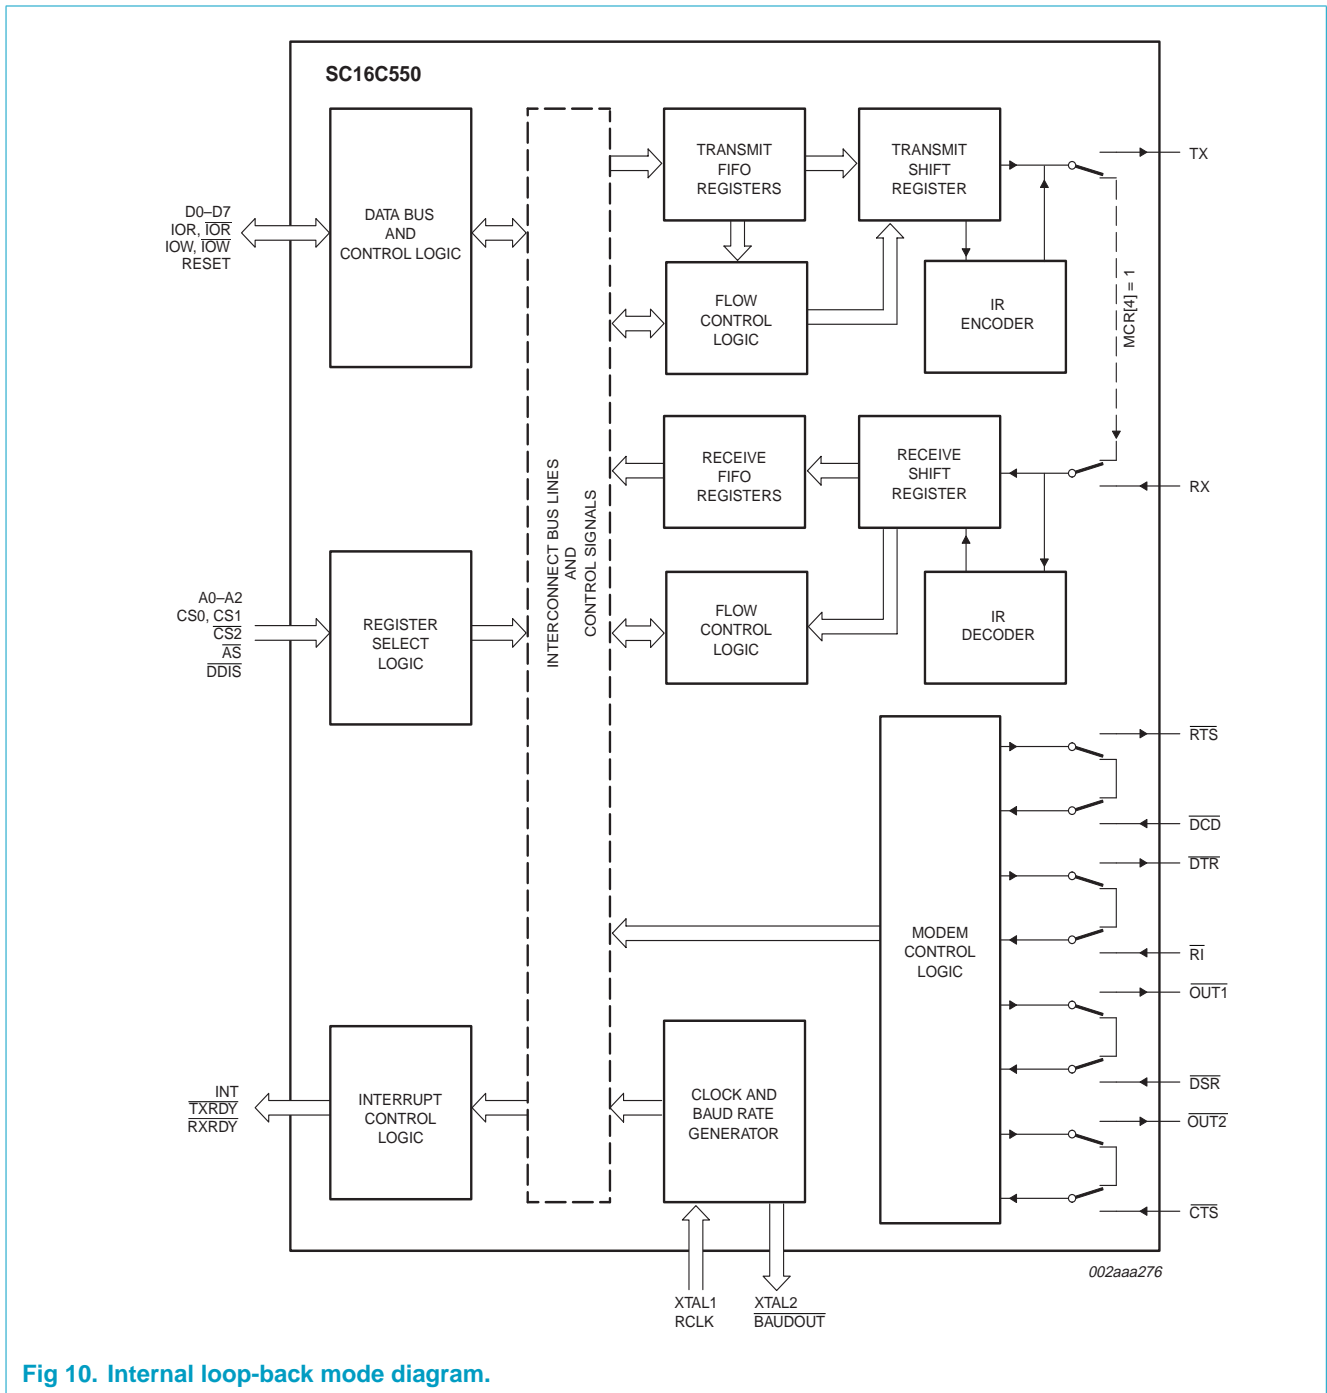

Fig 10. Internal loop-back mode diagram.
The internal loop-back capability allows on-board diagnostics. In the loop-back mode, the normal modem interface pins are disconnected and reconfigured for loop-back internally. MCR[0-3] register bits are used for controlling loop-back diagnostic testing. In the loop-back mode, OUT1 and OUT2 in the MCR register (bits 3-2) control the modem  $\overline{RI}$  and  $\overline{DCD}$  inputs, respectively. MCR signals  $\overline{DTR}$  and  $\overline{RTS}$  (bits 0-1) are used to control the modem  $\overline{CTS}$  and  $\overline{DSR}$  inputs, respectively. The transmitter output (TX) and the receiver input (RX) are disconnected from their associated interface pins, and instead are connected together internally (see Figure 10). The  $\overline{CTS}$ ,  $\overline{DSR}$ ,  $\overline{DCD}$ , and  $\overline{RI}$  are disconnected from their normal modem control input pins, and instead are connected internally to  $\overline{DTR}$ ,  $\overline{RTS}$ , OUT1 and OUT2. Loop-back test data is entered into the transmit holding register via the user data bus interface, D0-D7. The transmit UART serializes the data and passes the serial data to the receive UART via the internal loop-back connection. The receive UART converts the serial data back into parallel data that is then made available at the user data interface D0-D7. The user optionally compares the received data to the initial transmitted data for verifying error-free operation of the UART TX/RX circuits.